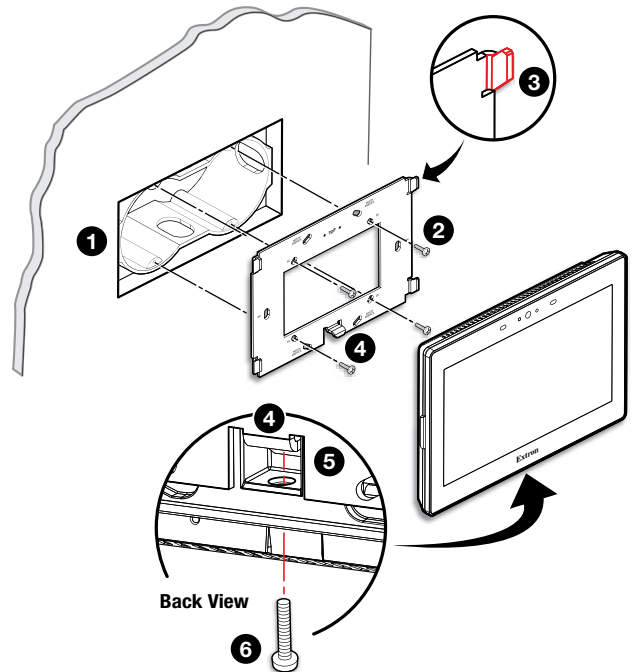
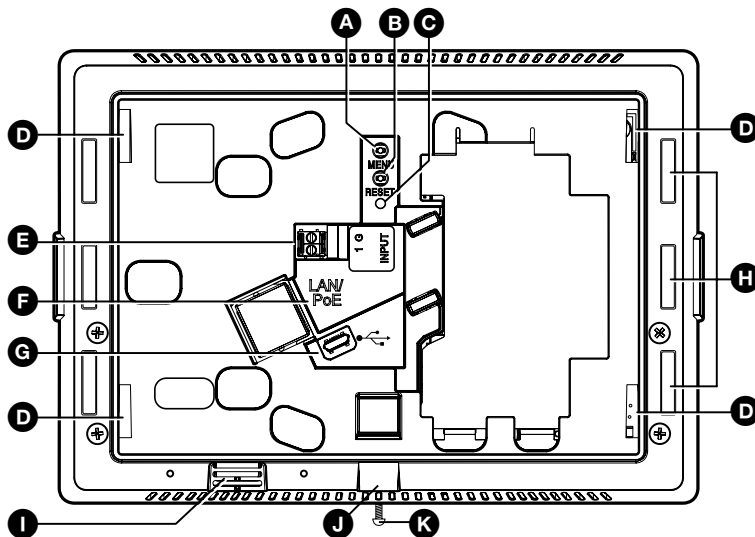

Figure 1. Mounting the Touchpanel with a Junction Box
Figure 3. Rear Panel
1. Install a junction box or wall box (see figure 1, ❶), following the instructions provided by the manufacturer.
4. The mounting plate has four hooks (see figure 1, ❸), one in each corner. Position the touch panel so that the four mounting slots in the rear of the touchpanel align (see figure 3, D, on page 2) with these hooks.
5. Move the touchpanel inward and downward so that touchpanel sits securely on the hooks and the tongue at the bottom of the mounting plate (see inset, figure 1, ❹) sits in the groove in the bottom of the touchpanel (❺).
6. Fasten the touchpanel to the mounting plate with the lock screw (❻).
4. Secure the mounting plate to the wall (figure 1, ②, on page 1).
- D Mounting Slots** — Four, one in each corner. The hooks on the corners of the mounting plate (see figure 1, ③, on page 1) fit into these slots for wall mounting.
- G USB Port** (see figure 3 on page 2) — Compatible with USB 2.0.
- J Slot for Mounting Plate** — The tongue at the bottom of the mounting plate (see figure 1, 4, on the previous page) fits into this slot, for wall mounting.